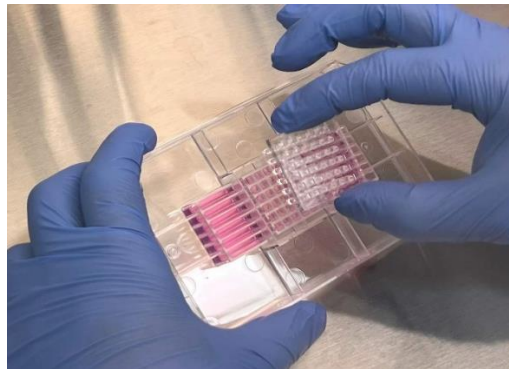

Figure 4. Sandwiching the 36PillarPlate with cells/spheroids onto the perfusion wells of the 36PerfusionPlate for dynamic cell culture.
- Sandwich the pillar plate with cells/spheroids onto the perfusion plate and cover the sandwiched plates with a lid (**Fig. 4**).